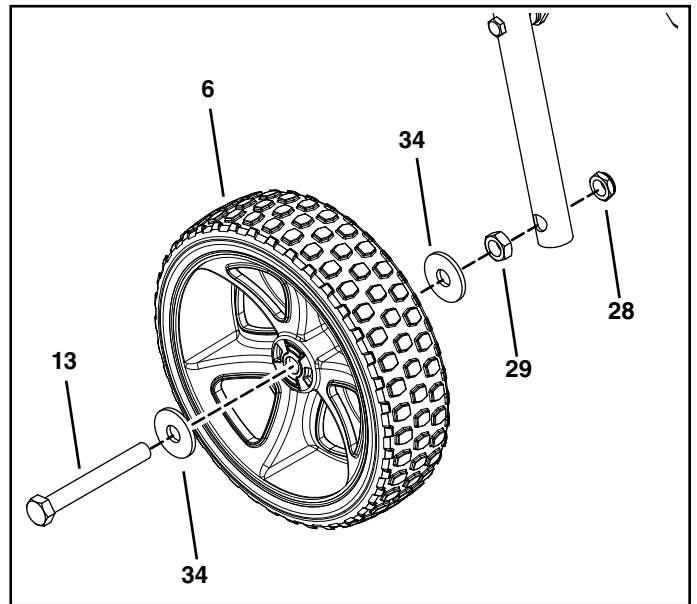

FIGURE 6
- Assemble a 1/2" x 4" hex bolt (13), a .531 washer (34), a wheel (6), a .531 washer (34), and a .5" jam nut (29). **Finger tighten only.**
- Attach the wheel assembly to the transport tube using a 1/2" nylock jam nut (28). Repeat for the other side. See figure 6.